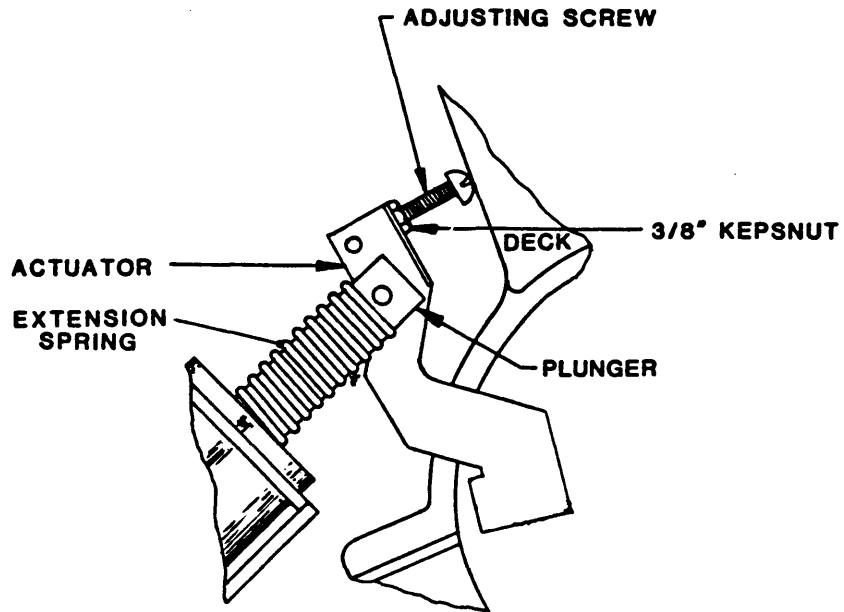

Figure 4-5 Hub Lock Solenoid Actuator
**4.3.4 SPRING, EXTENSION (Fig. 4-5)**